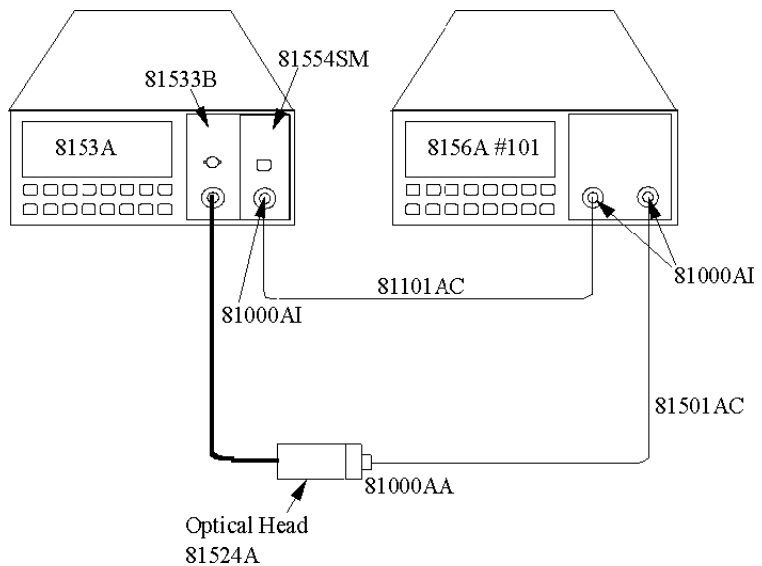

Figure D-13
- 1 Connect the equipment as shown in Figure D-13.